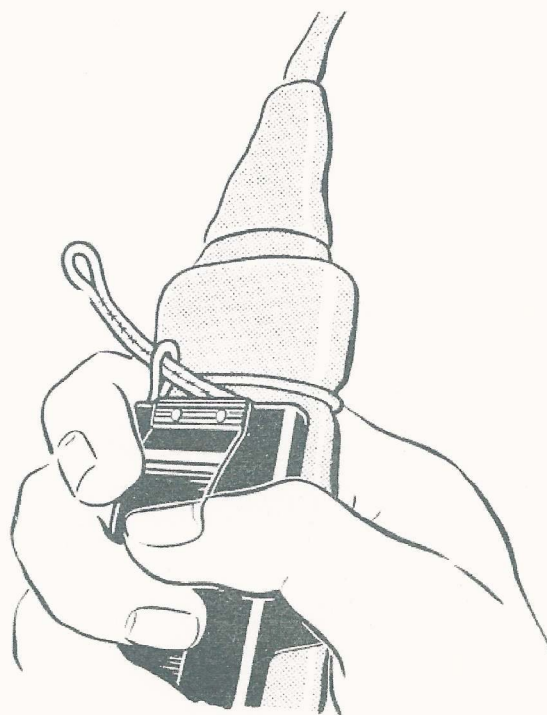

Fig. 6. Connecting the beacon to the battery switch pin: third stage
(4) Pass the longer end through the loop at the other end (fig. 6).